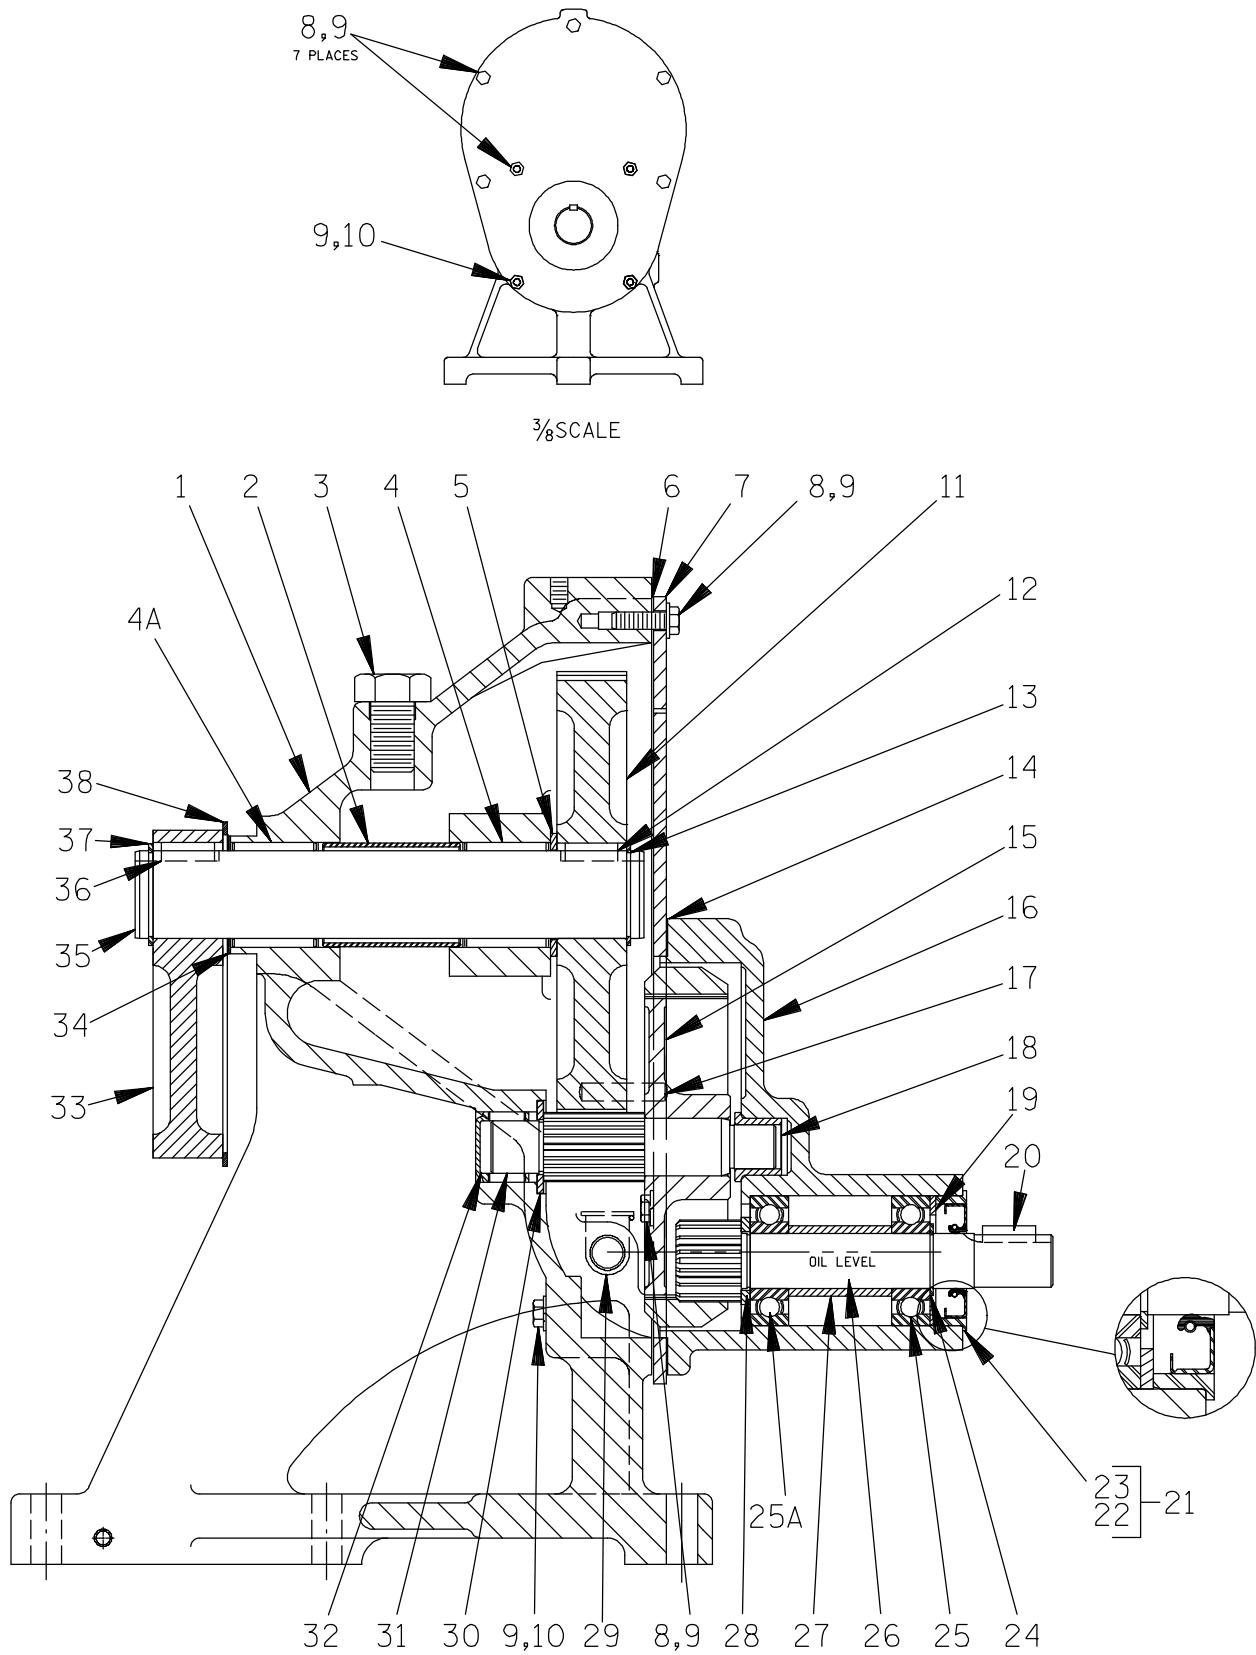

Figure 4. 8981 Gearbox Assembly
Removing the snap ring (6) and slide the plunger rod assembly (27) off the eccentric cam (33, Figure 4).
Disengage the hardware (23 and 24) and remove the coupling guard (11). Loosen the attaching hardware, separate the coupling halves (13 and 14) and remove the spider (15). Remove the gearbox assembly and slide the coupling half off the pinion drive shaft (26, Figure 4).
**(Figure 4)**